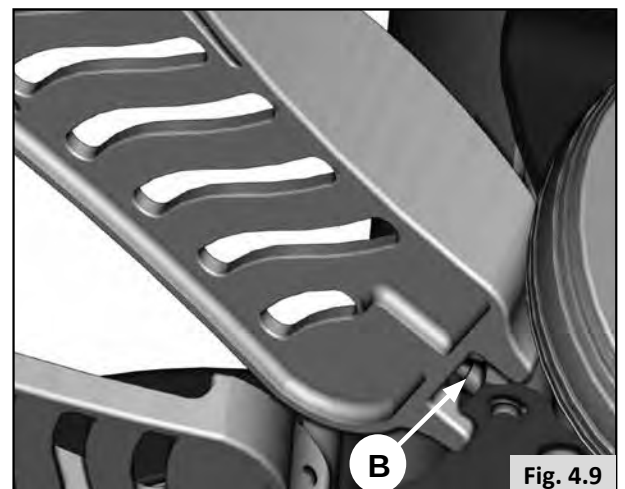

Fig. 4.9
- Flip up the footplate so that you can reach the angle setting screw, (B-Fig.4.9).